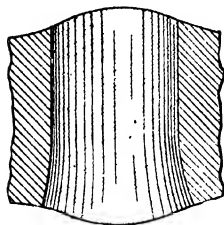

Fig. 393.
**Fixing Hammer Heads to Handles.**—The best way of fixing a hammer head is to use one with an eye or opening shaped as shown in the sections (Figs. 393 and
Figs. 393 to 395.—Diagrams showing Best Method of Fastening on Hammer Head.